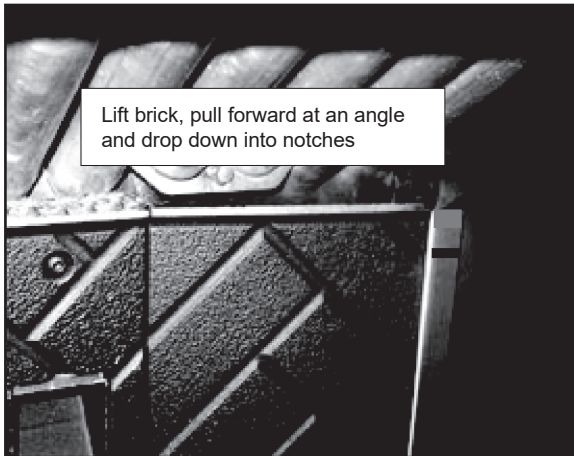

Figure 28.1
3. Lift slightly and pull the right edge of the brick forward until it stops and then drops down into both top and bottom notches of right bracket and locks into place (Figures 28.1 and 28.2).